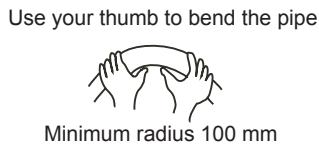

Fig.6-2
- i. The bend angle must not exceed 90°. (See Fig.6-2)